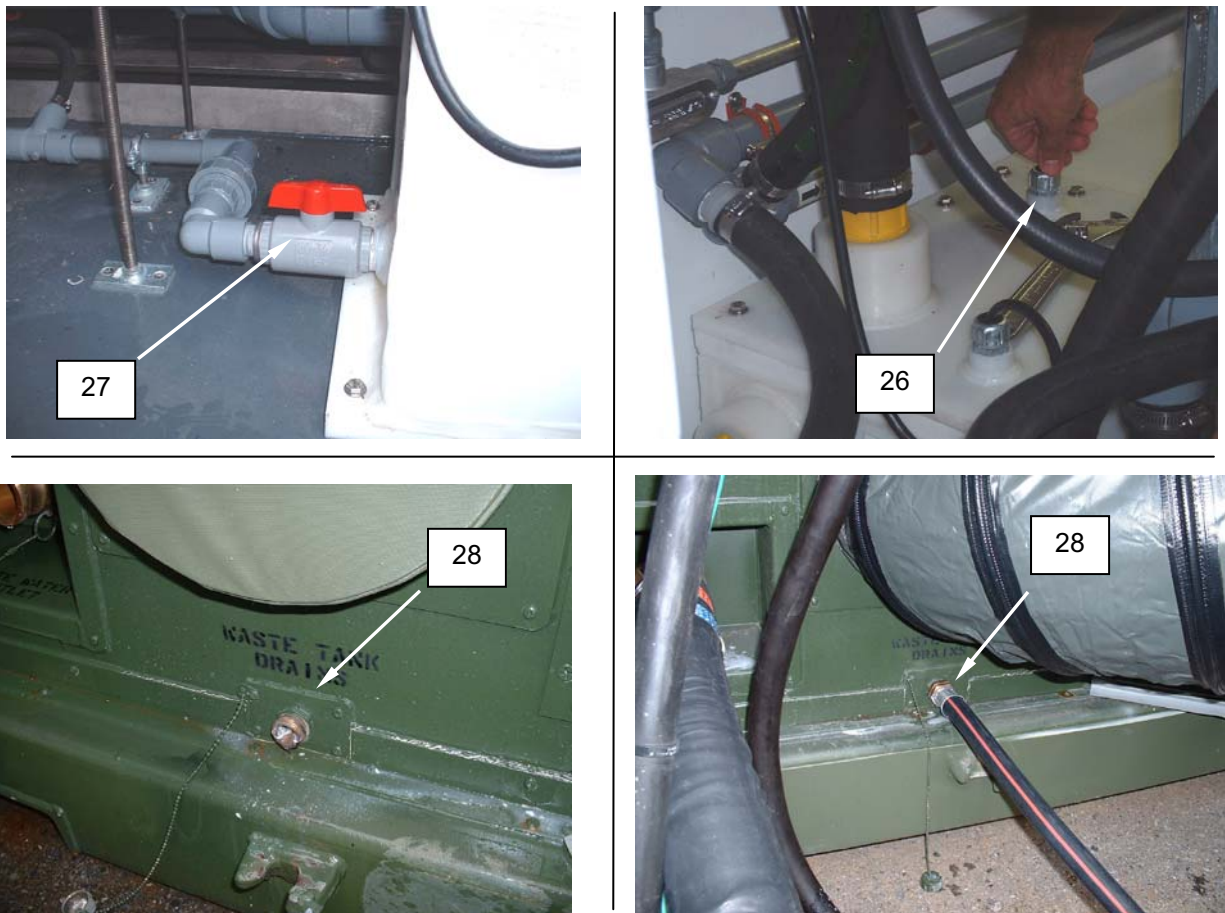

Figure 21. Drain System.
25. Open the WTS transfer tank drain valve V-35 (**Figure 21, Item 27**).
26. Wait at least 5 minutes, and then manually operate waste tank drain pump (**Figure 21, Item 26**) by pulling up on knob and holding for approximately 30-45 seconds or until empty.
27. Remove waste tank drain cap and install waste tank drain hose onto waste tank drain fitting (**Figure 21, Item 28**).
28. Wait at least 5 minutes, and then manually operate waste tank drain pump by pulling up on knob (**Figure 21, Item 26**) and hold in position for 30-45 seconds or until empty.